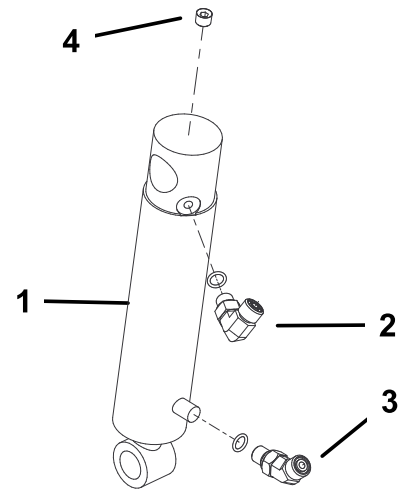

Figure 17
1. Thread a 90° fitting into the upper port in the hydraulic cylinder. Position the fitting as shown in Figure 17.
2. Thread a 45° fitting into the lower port in the hydraulic cylinder. Position the fitting as shown in Figure 17.